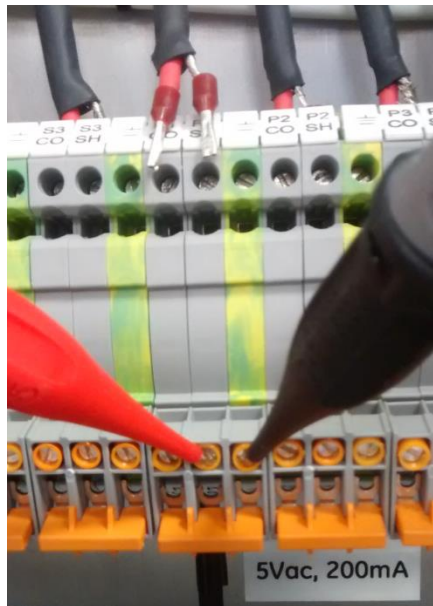

Figure D-14: Resistance between cable shield and ground
25. For each Bushing Adaptor, test the continuity between the coaxial cable shield and ground at the cabinet as shown in Figure D-14. It should be less than 5 Ω . Record this measurement in the Results table.